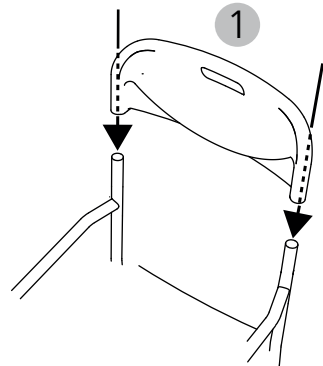

Abb. 8
4. In order to complete the assembly of the 9401-A (shower chair), the back is mounted on the side elements. To do so, lift the backrest to the side using both hands. The next step is to push the backrest onto the back tubes of the side elements up to the stop. (Fig. 8, 1).